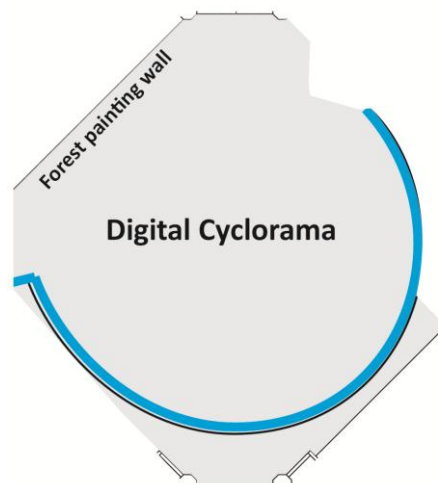

Fig 3.1 Dimensions of curve partition
- Scenography on the wall: Relief wall made of fiberglass cutout of carboniferous trees around 5 to 6 and finish with NC paint. Background painting is to be done with NC Paint finish. Details are given in fig 3.1 & 3.2